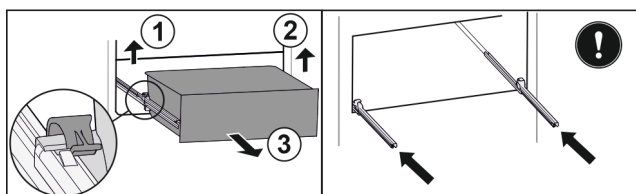

Fig. 214
- Lift left clamp and simultaneously pull drawer forwards on the left. Fig. 214 (1)
- Lift right clamp and simultaneously pull drawer forwards on the right. Fig. 214 (2)
- Remove drawer to the front. Fig. 214 (3)